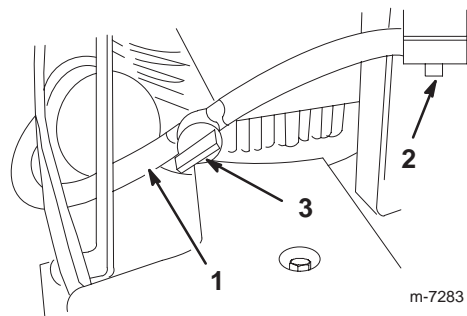

Figure 3
4. Remove the red cap from the end of the fuel line and from the end of the elbow fitting on the fuel tank (Fig. 3).
5. Slide the end of the fuel line onto the elbow fitting (Fig. 3).
6. Secure the fuel line in place with the fuel line clamp (Fig. 3).
- Open the fuel valve (Fig. 3).